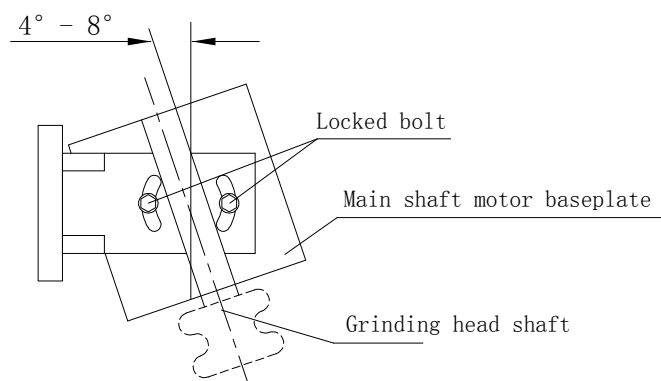
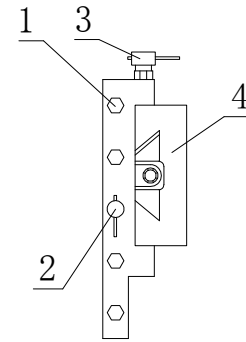

FIG.11
图 13
Experience shows that in order to achieve better polishing effects in stone decorative line and border processing, the grinding head spindle should be set an angle to the travel direction. Use a T-shape Allen wrench to loosen the 2 bolts shown in the diagram. Turn spindle motor baseplate by  $4^{\circ}$  to  $8^{\circ}$ , and then tighten it. (See FIG.11)
(1) When processing decorative borders on stone products, the grinding head shaft should be in a vertical position. After adjusting the grinding wheel, the locking bolt (2) illustrated in FIG.13 should be tightened. In this way, ideal border-grinding results can be achieved.
(2) When processing plane decorative lines, the grinding head shaft should be in a horizontal position. In order to prevent aberrations in the shape of the decorative line, the locking bolt (3) illustrated in the figure on the right should be tightened. (See FIG.13)
After making accurate adjustment of all polishing wheel tool rows, they can be put into assembly, and used to carry out batch processing of stone product decorative lines, if grinding and polishing borders are required, merely rotate the grinding head through  $90^\circ$ , so that it is perpendicular to the worktop surface. Also secure vertical drag plate bolts as shown in fig.11 on page 8. The steps for altering a complete set of polishing wheels are the same as those described above. (See FIG.13)